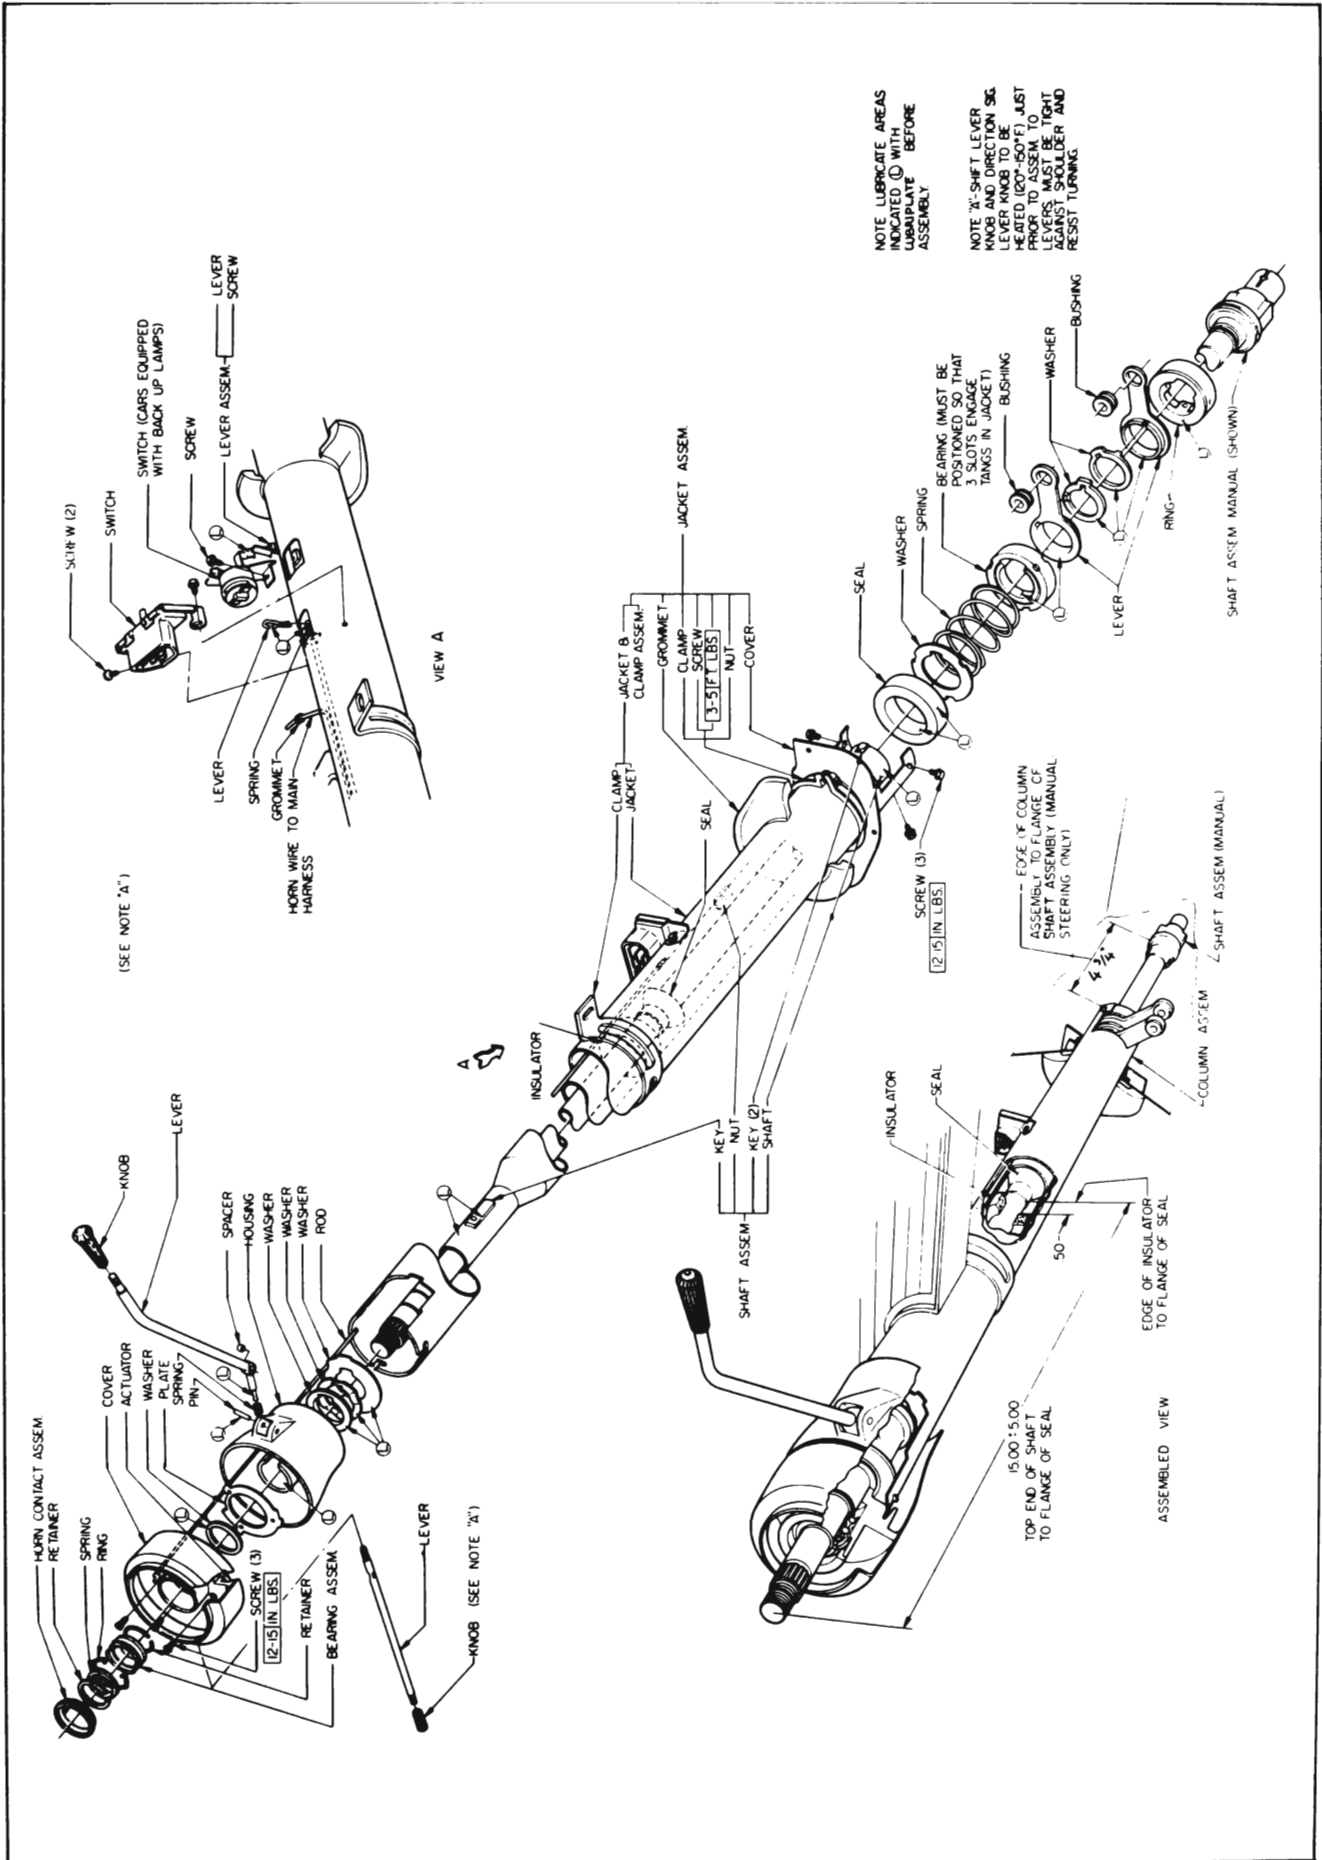

Figure 8-83—Mast Jacket and Transmission Shaft Assembly - Three-Speed Synchromesh Transmission
NOTE: Refer to Figure 8-83 for disassembly and assembly.
NOTE: Lubricate areas indicated with L on figure 8-83 with lubriplate during assembly of parts.
8. Insert control shaft into the bottom end of mast jacket. The three slots in the nylon bearing must align with the tangs in the mast jacket. See Figure 8-83.
11. Install wave washer and nylon washer on control shaft. See Figure 8-83.
18. Insert steering shaft in shift control shaft. Dust seal must be on shaft so that it will be located as shown in Figure 8-83 when shaft is installed.
21. Install horn contact and wire assembly as shown, feeding wire inside mast jacket and out through opening provided for wire in jacket. See Figure 8-83 and 8-92.